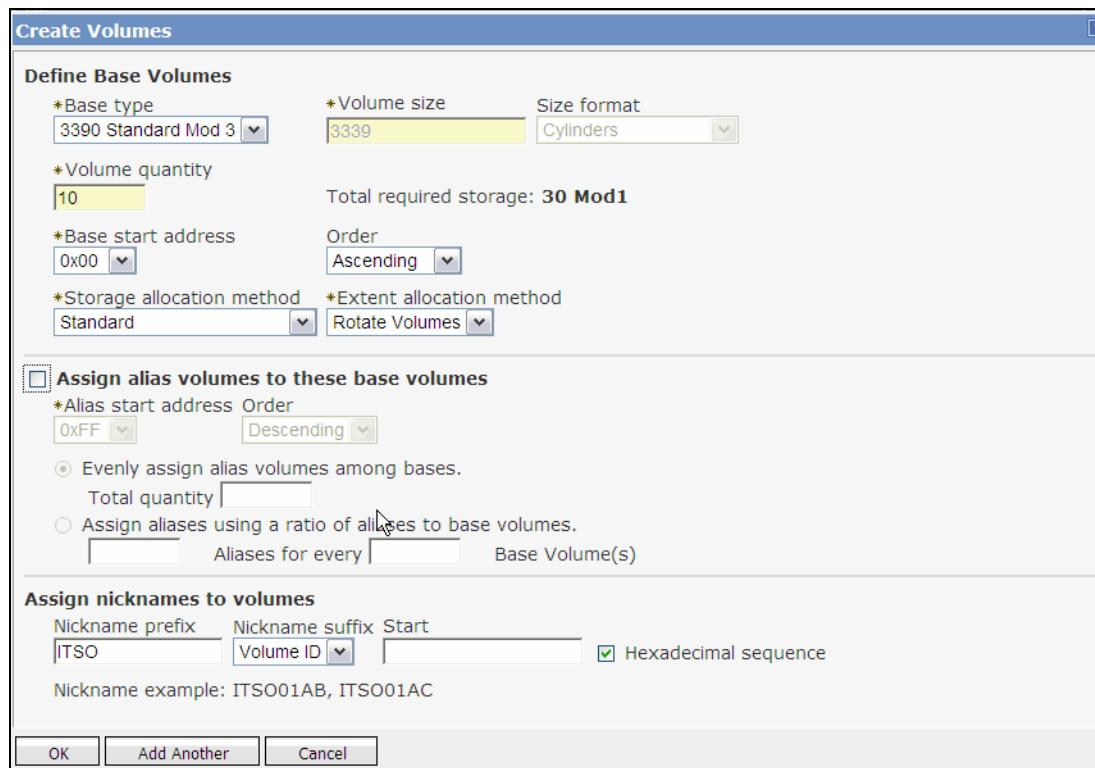

Figure 13-68 Create Volumes window
5. In the next window (Figure 13-68), you must configure your base volumes and, optionally, assign alias volumes. The Parallel Access Volume (PAV) license function should be activated in order to use alias volumes.